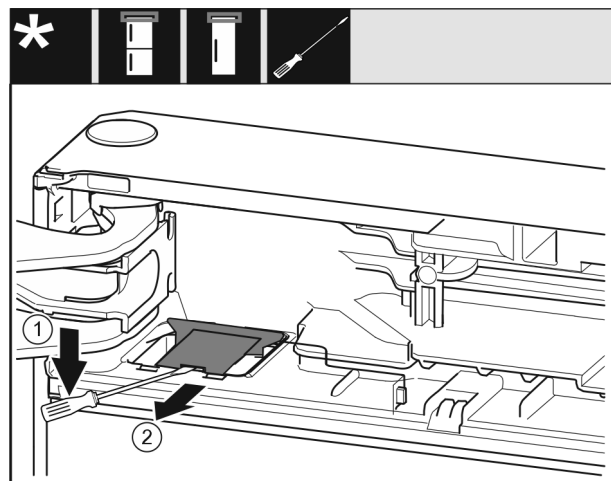

Fig. 9
▶ Use a screwdriver to snap out the cover Fig. 9 (1).
▶ Pull out the cover Fig. 9 (2).